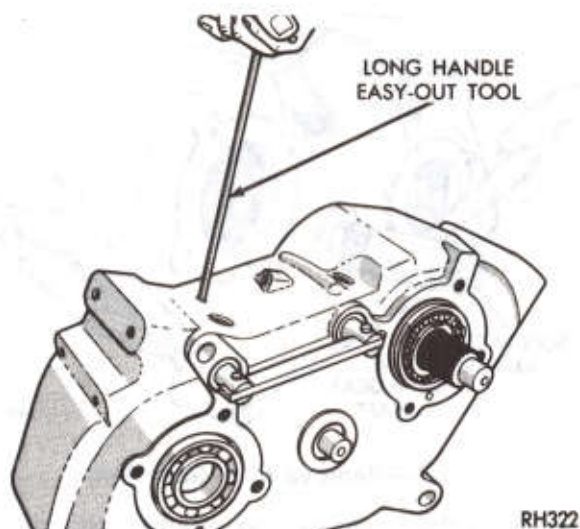
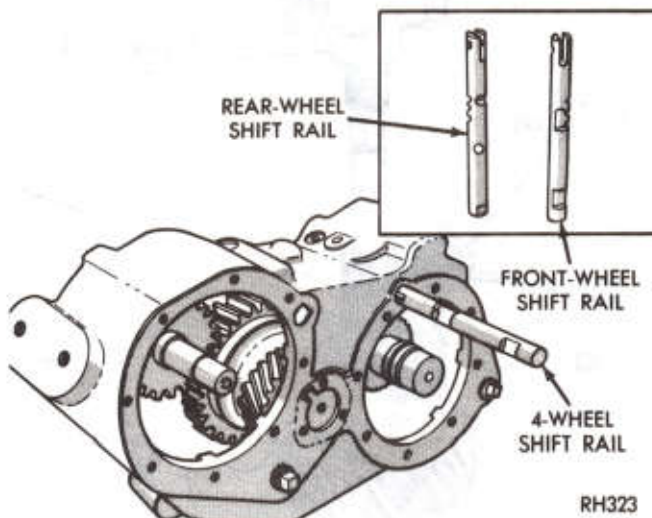
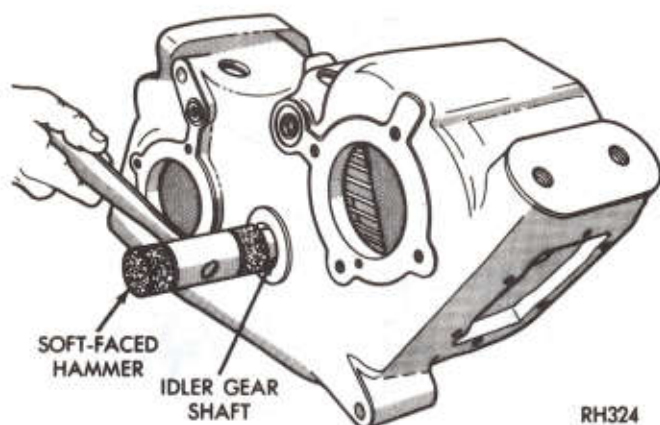

Fig. 6—Remove Shift Fork Pins
Fig. 7—Remove or Install Shift Rails
Fig. 8—Remove Idler Gear Shaft
- (12) Using a long-handle easy-out tool, remove shift fork pins (Fig. 6).
- (13) Remove clevis pins, remove shift rail link.
- (14) Remove shift rails, upper rail (range) first, then lower (4 wheel) (Fig. 7).
- (15) Remove forks and sliding clutches.
- (16) Remove front output high gear, washer, and bearing.
- (17) Remove input gear and bearing.
- (18) Using plastic hammer, remove idler gear shaft (Fig. 8).
- (19) Tilt case at 45 degree angle, roll idler gear to front shaft hole and remove. Note and record number of shims for reassembly.
- (20) Remove two bearing cups from idler gear.
- (21) Remove two interlock pins from inside of case (upward) toward PTO opening.
- (22) If necessary to replace front output shaft rear
(5) Install idler shaft from large bore side and drive dummy shaft through, use a heavy, soft hammer (plastic or leather).
(6) Install washer and **new** locknut. Check end play and free rotation. Tighten nut to 150 ft. lbs. (203 N-m).
(7) Install input and front output shaft bearings.
(8) Check input and front output bearing seals, replace if necessary. Install input and front output bearing retainer assemblies. Check with gasket to determine if one or two are needed. Dip bolts into sealant before installing. Install retainers with oil drain slot aligning with drain hole.
(9) Install interlock pins from large bore or PTO opening.
(10) Install input gear assembly.
(11) Install front wheel Hi gear and washer on front output shaft in case. Install clutch gear on the shaft.
(12) Start front wheel shift rail into case from back, slotted end first, poppet notches up (Fig. 7).
(13) Install sliding clutch onto fork (long end inward), then place over front output shaft. Slide onto clutch gear and position to receive rail. Push rail through to neutral position.
(14) Start range rail into case from back, poppet notches up.
(15) Install sliding clutch onto fork, place over input shaft. Slide onto clutch gear and position to receive range rail. Push rail through to neutral position.
(16) Install **new** lock pins through holes at top of case, into forks and drive to seat.
(17) Install two rows of 32 needles each separated by spacer in front low output gear. Retain with sufficient amount of grease. Place front output shaft